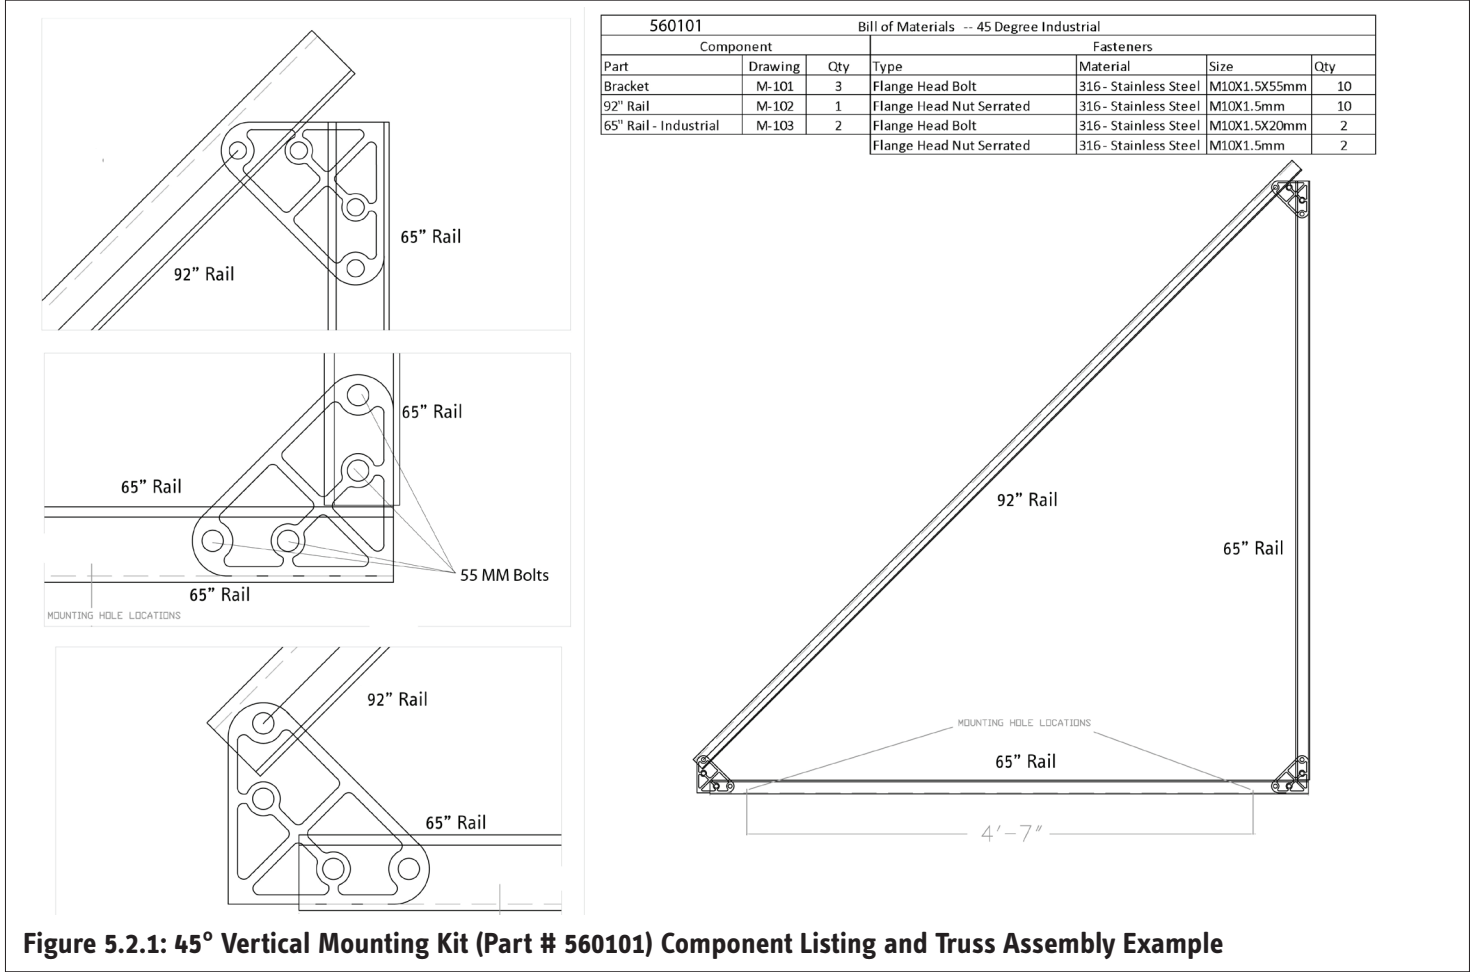

Figure 5.2.1: 45° Vertical Mounting Kit (Part # 560101) Component Listing and Truss Assembly Example
2. Assemble 2 triangular trusses using the 65" rails (M-103), the 92" rails (M-102), the brackets (M-101), and the 55 mm bolts as shown in Figure 5.2.1.